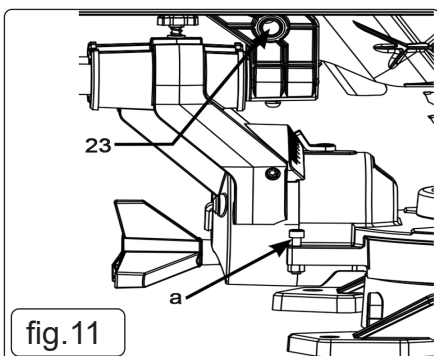

fig.11
- 7.2.2. Lower the machine head (fig 1 - 4) and secure with the fastening bolt (fig 11 - 23).
- 7.2.5. Make any adjustments using adjusting screw a (fig 11 - a).
- 7.3.2. Lower the machine head (fig 1 - 4) and secure with the fastening bolt (fig 11 - 23).